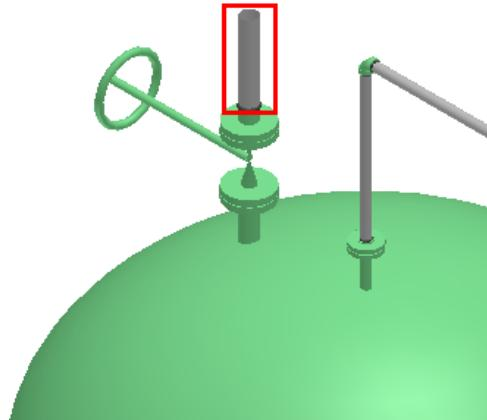

Figure 13: Pipe Routed From the Flange
13. To let the fluid come out of the valve, place a pipe on the gate valve. Route a **1 ft** pipe from the flange placed above by using the **Route Pipe** command as shown in Figure 13.